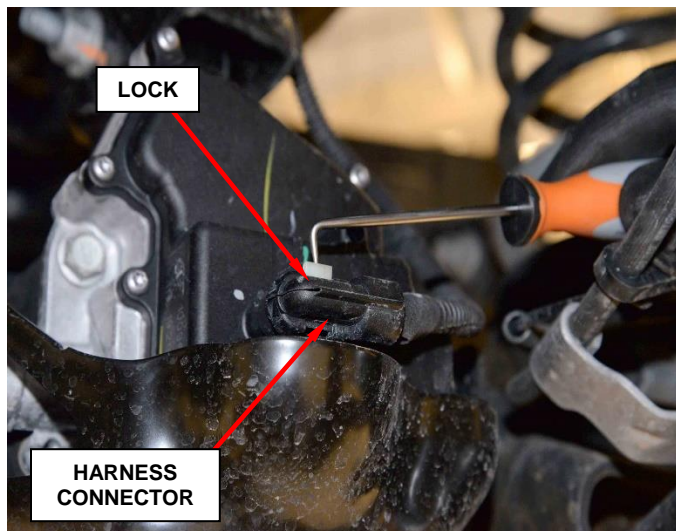

Figure 4 – Tru-Lok Electrical Connector
7. Using a pick unlock the Tru-Lok wire harness connector, then disconnect from the axle module, and disengage the wiring harness clip from the front axle (Figure 4).